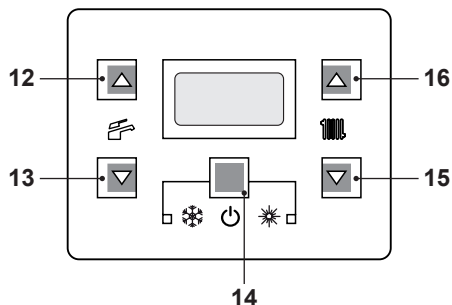

Fig. 2.7
- Press the key 14 for 2 seconds until the symbol appears on the display Fig. 2.7.
The output temperature of c.h. water can be adjusted by acting on keys 15 (reduce) and 16 (increase) (Fig. 2.7) from a minimum of about 25°C to a maximum of about 85°C. Press one of the two keys once to display the "set" value. Press again to access the modification.
However, if the ambient temperature is not comfortable, the flow temperature of the heating plant can be increased or reduced by $\pm 15^{\circ}\text{C}$ by acting on keys 15 (reduce) and 16 (increase) (Fig. 2.7).
The temperature of the d.h.w. can be adjusted by acting on keys 12 (increase) and 13 (reduce) (Fig. 2.7) from a minimum of about 35°C to a maximum of about 60°C. Press one of the two keys once to display the "set" value. Press again to access the modification.